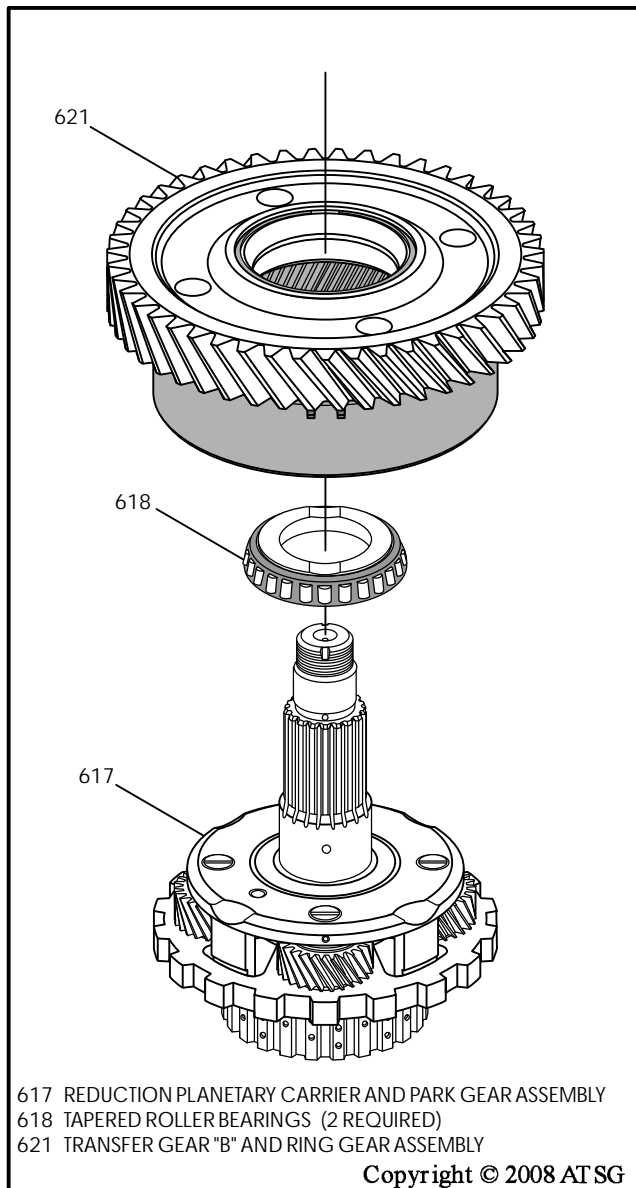

Figure 103
8. Install transfer gear "B" and internal ring gear assembly onto planetary carrier, as shown in Figure 103.